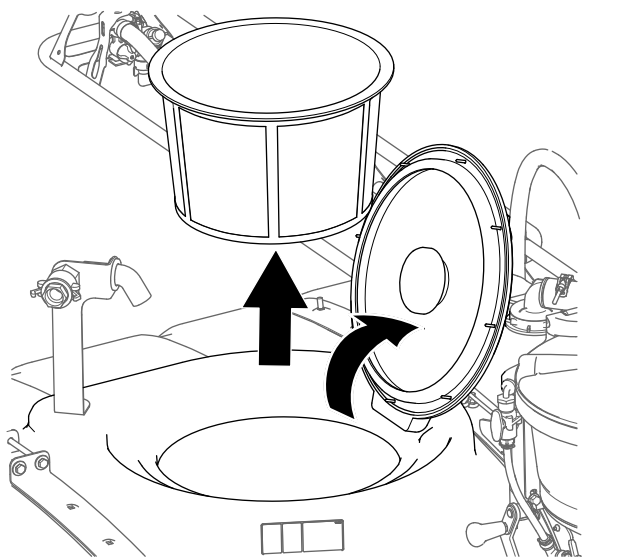

Figure 25
1. Open the lid of the spray tank and remove the filter basket (Figure 25).